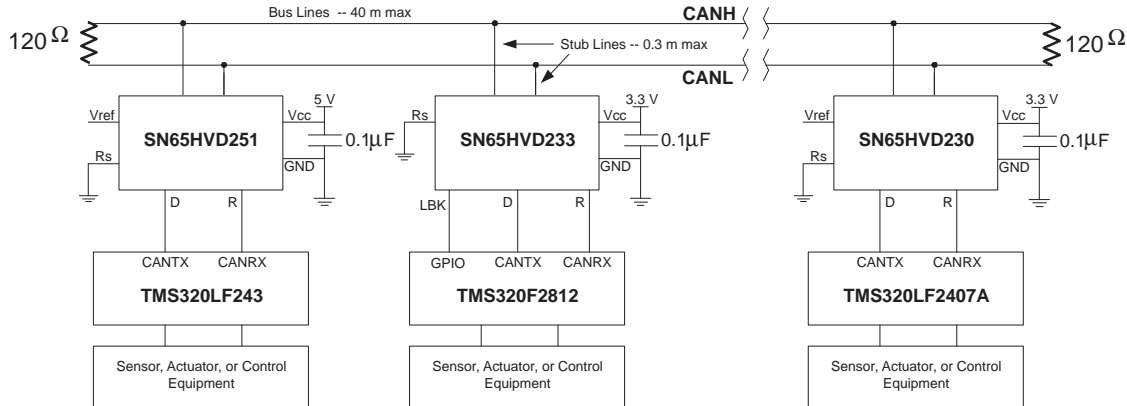

Figure 26. Typical SN65HVD233 Application
The loopback (LBK) function of the SN65HVD233 is enabled with a high-level input to pin 5. This forces the driver into a recessive state and redirects the data (D) input at pin 1 to the received-data (R) output at pin 4. This allows the host controller to input and read back a bit sequence to perform diagnostic routines without disturbing the CAN bus. A typical CAN bus application is displayed in Figure 26.